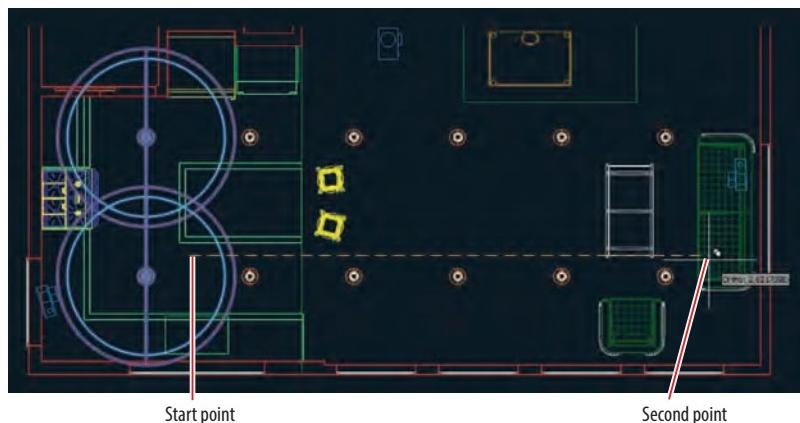

FIGURE 18.8 Copying spotlights in a rectangular array
12. Type **F** (for Fit) and press Enter. Move the cursor under the right-most light fixture (see Figure 18.8), and click to specify the second point of the array. Press Enter to exit the ARRAY command.